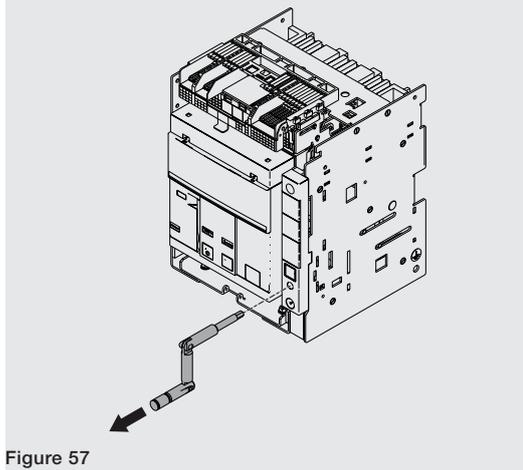

Figure 57
8. Extract the crank. See Figure 57.